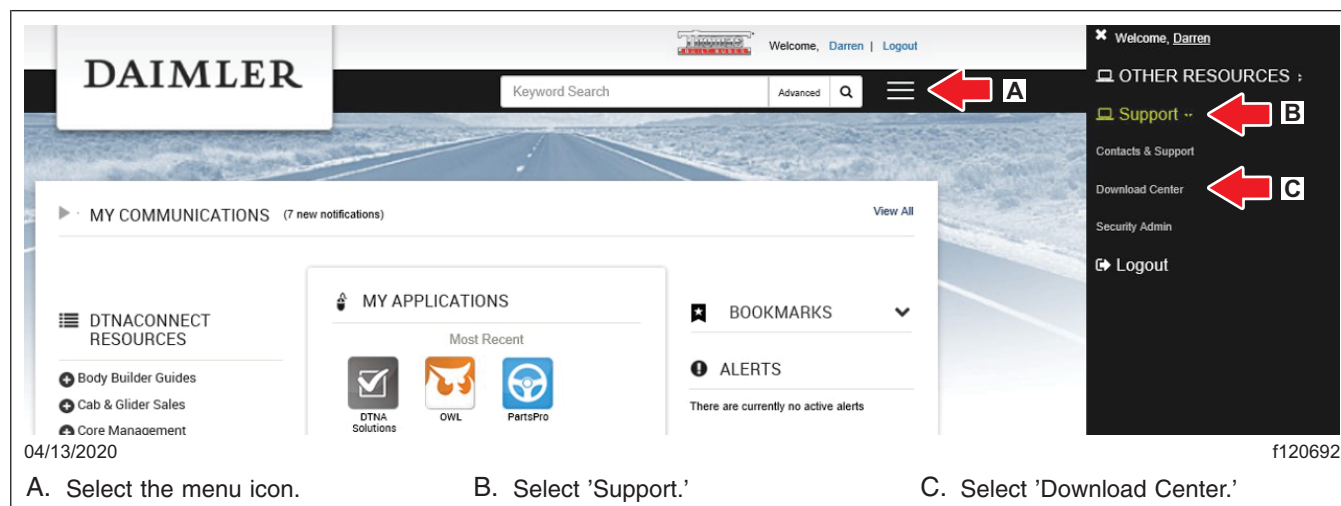

Fig. 1, DTNACconnect Screen
4. In the upper right-hand corner, select the menu icon. See Fig. 1, ref. A.
5. Select 'Support,' then select 'Download Center.' See Fig. 1 ref. B and ref. C.
18. Go back to www.DTNACconnect.com and select 'Support,' then select 'Download Center.' See Fig. 1 ref. B and ref. C. Select '8.0L LPG Engine Calibration Update' then select the engine calibration link, shown in Fig. 15.